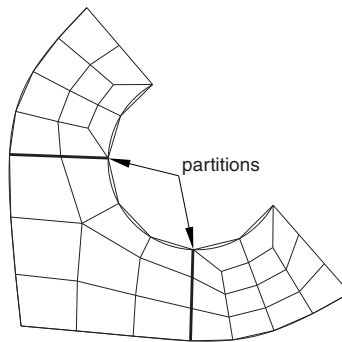

Figure 17-62 Partition the region.
- Partition the part instance into smaller, more regularly shaped regions. For example, the model was partitioned into three regions in Figure 17-62.